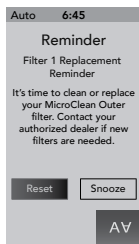

Figure 15.0d
20. **MicroClean Outer Filter Reminder:** This message will appear when the filter reminder time has expired (Figure 15.0d). Remove the MicroClean Outer filters for cleaning or replacement.